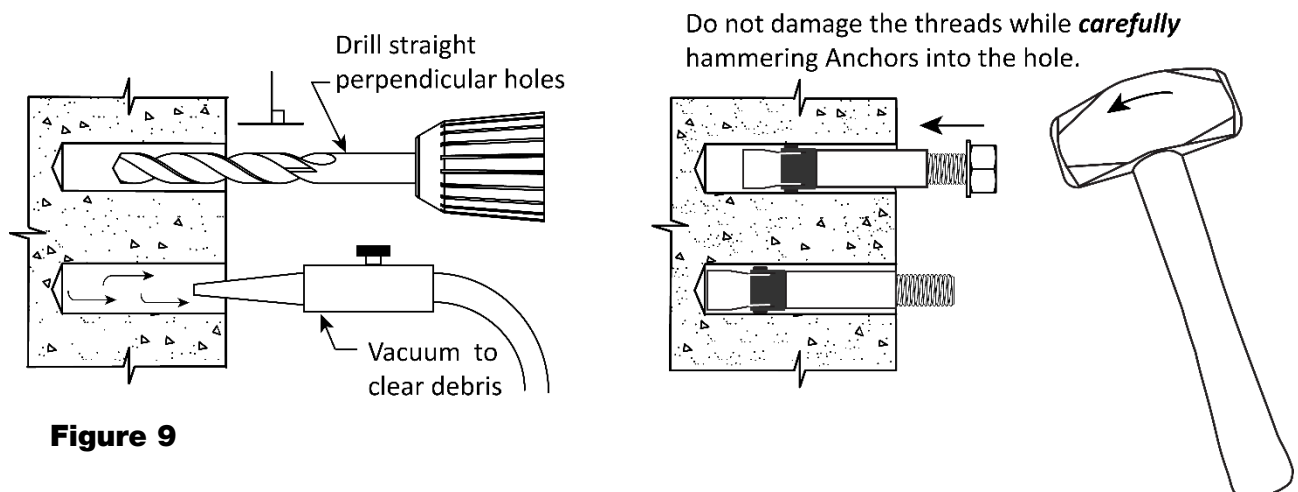

Figure 9
5. Use a vacuum or compressed air to thoroughly clear the debris from the hole. Do not make the holes any larger than necessary Refer to **figure 9.**
6. Use a vacuum or compressed air to thoroughly clear the debris from the hole. Do not make the holes any larger than necessary Refer to **figure 9**.